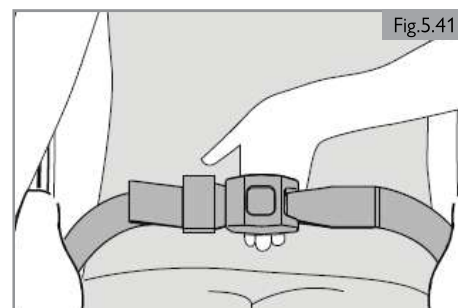

Fig.5.41
1. Adjust the lap belt to suit, leaving no more than a hand's width gap for comfort and safety. (Fig. 5.41)